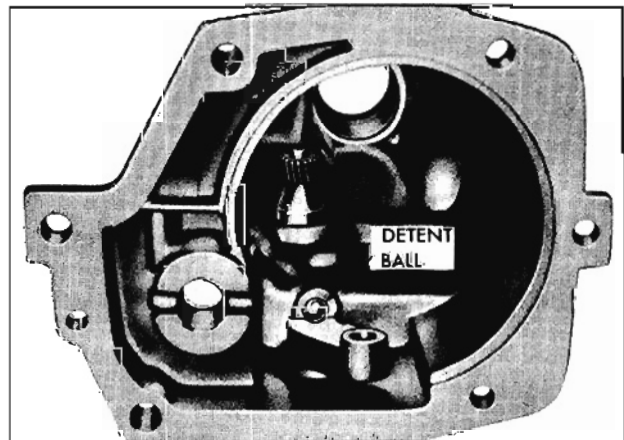

Fig. 7-216 Installing Reverse Shifter Shaft and Detent Ball
5. Place detent ball on spring (Fig. 7-216) and, holding ball down with your thumb or a suitable tool, push the shifter shaft back in away from case until it is directly over the ball and turn until the ball drops into detent on the shaft detent plate.